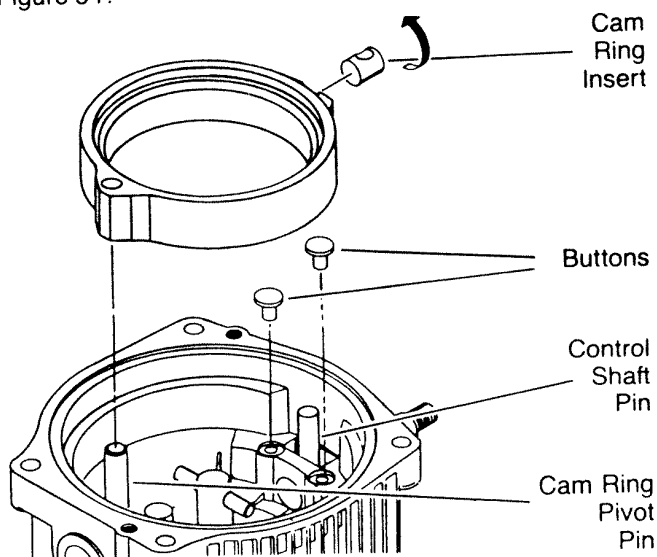

Fig. 54
**100** Install 2 buttons in the cover as shown in Figure 54.
**101** Install the cam ring insert with the hole away from the cam ring as shown in Figure 54.